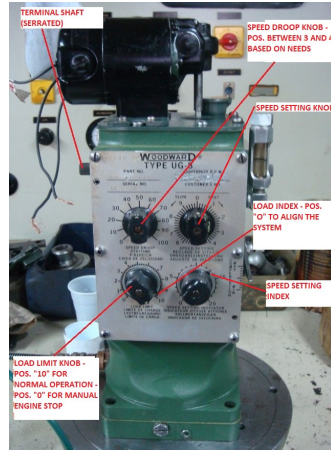

Fig.2
D. Check that the speed setting index is in a position between 0 and 3. If necessary, rotate the speed setting knob counterclockwise (Fig. 2), lowering the speed setting and positioning the pointer to one of the above mentioned positions .
After starting, with the engine running without load, the load index on the governor (see Fig. 2) must settle in a position between 1 and 2, otherwise it must be correct by acting on the swivel (see swivel Fig.1) so that this position is obtained.
- Manually turn the Speed Setting knob clockwise (Fig. 2), to increase the setting until the approximate rated speed is reached.